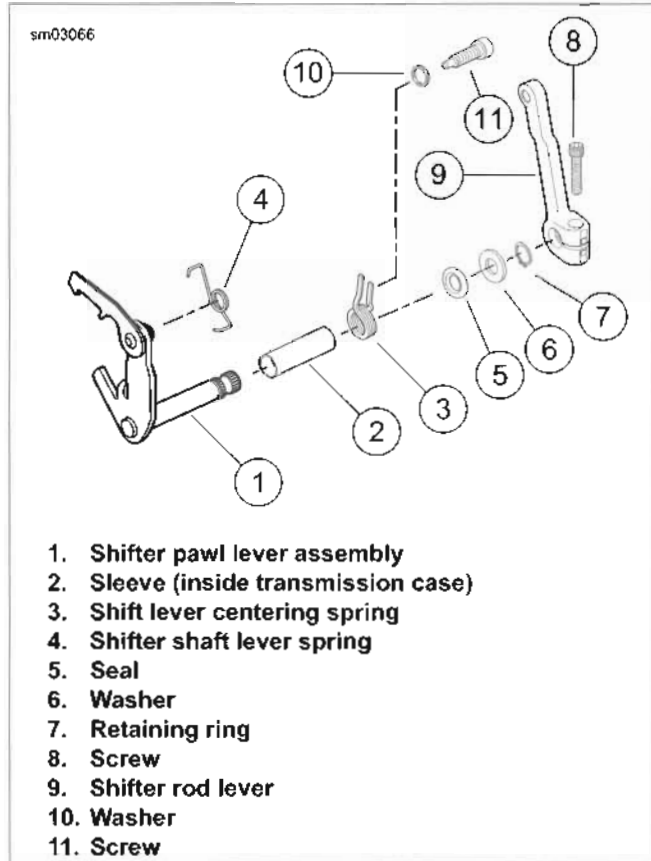

Figure 6-52. Shifter Arm Assembly
1. See Figure 6-52. After removing bearing housing assembly, remove screw (8) and shifter rod lever (9) from the shifter pawl lever assembly (1).
2. Remove retaining ring (7), washer (6) and seal (5). Discard retaining ring and seal. Pull shifter pawl lever assembly out of the transmission case.
3. Inspect sleeve (2) inside transmission case.
2. See Figure 6-52. Inspect the shifter pawl lever assembly (1) for wear. Replace assembly if pawl ends are damaged. Replace centering spring (3) if elongated.
3. Inspect the shifter spring (4). Replace if the spring fails to hold the pawl on the cam pins.
1. See Figure 6-52. Verify that sleeve (2) is inside transmission case.
2. Install screw (11) and washer (10) into side of transmission case. Tighten to 18-23 ft-lbs (24.4-31.2 Nm).
9. See Figure 6-52. Install shifter rod lever (9) on the shifter pawl lever assembly shaft end using screw (8). Tighten to 18-22 ft-lbs (24.4-29.8 Nm).